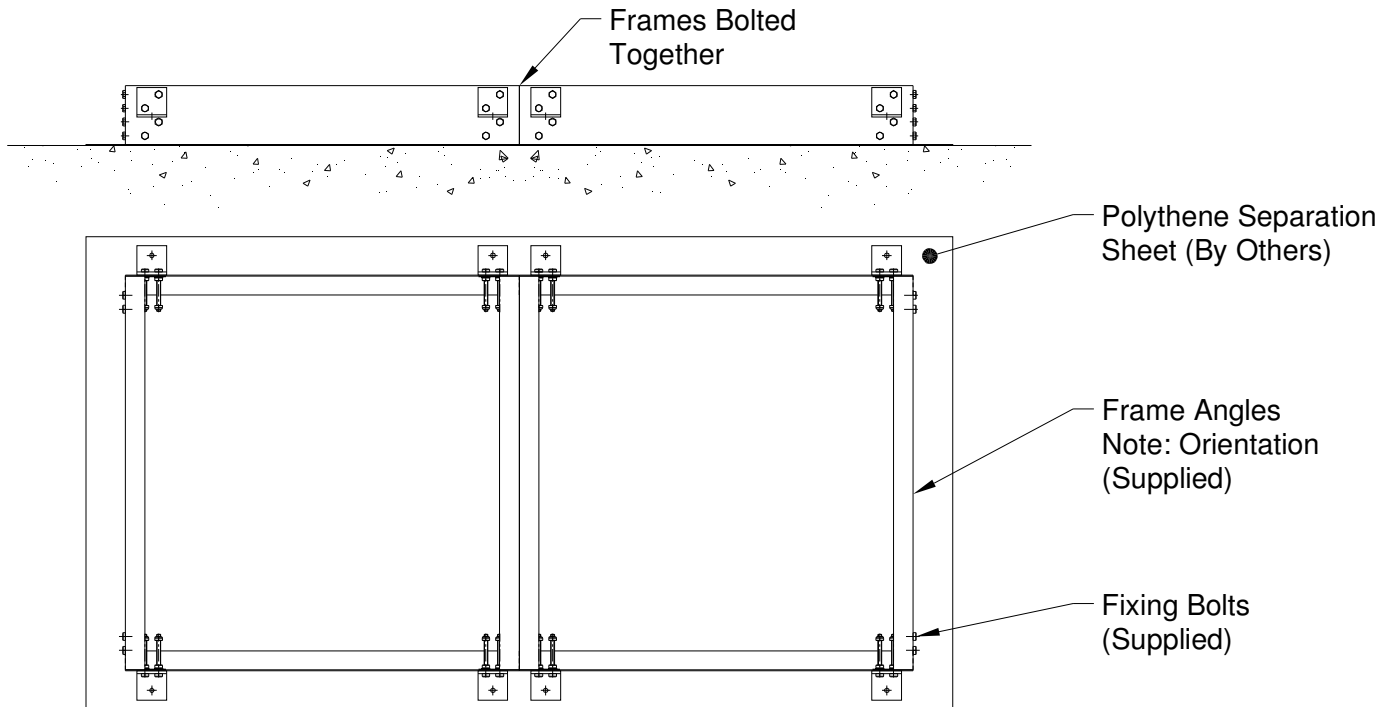

Figure 2
- 3) Multiple frame sections should be typically assembled as previous procedure 2 (See Figure 2). Note: inertia pouring frames must be assembled and cast in their working position.